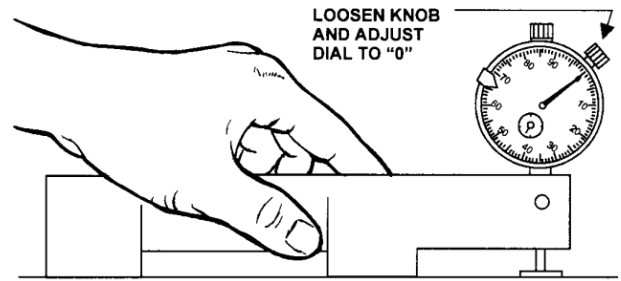

Fig. 14
9. If you have a knife setting gauge, place it on the outfeed table and "0" the indicator as shown in Figure 14.
11. If the indicator reads outside of this range, loosen the set screw in the side of the gauge and adjust the indicator so that it will read within the range above. Zero the indicator as shown in Figure 14.
12. Repeat this process until indicator reads within the .025 to .050 range. Always zero the indicator (as shown in Figure 14) before each use.